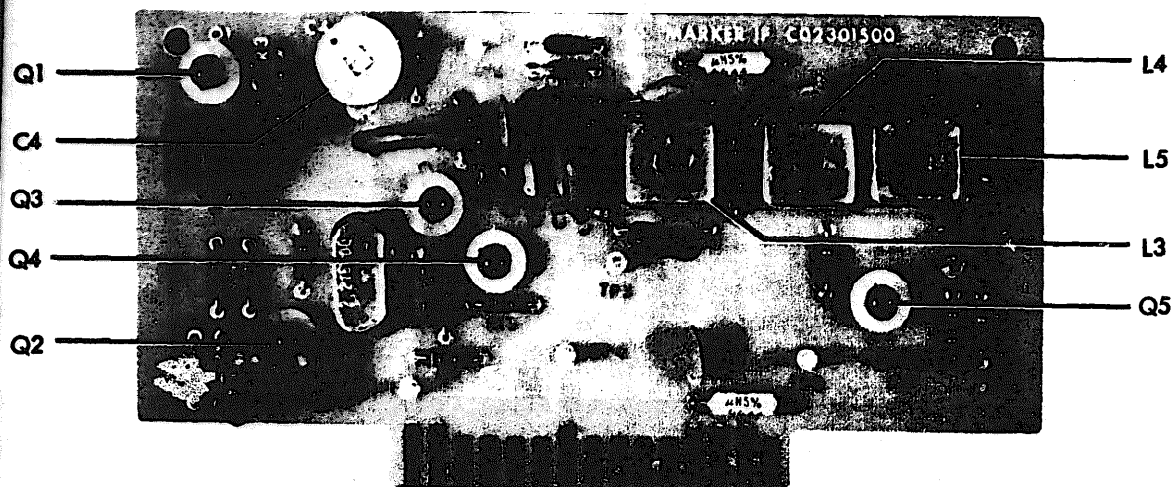

Figure 4-3. Module A5, Marker IF CO2301500
(1) With the, SWEEP switch in the 10 kHz position, adjust R29 for a reading of 30 ± 2 millivolts.
(2) With the SWEEP switch in the 1 kHz position, adjust R30 for a reading of 65 ± 3 millivolts.
(3) Repeat (1) and (2) above once because these adjustments interact slightly.
5. Marker IF module A5 [Figure 4-3]